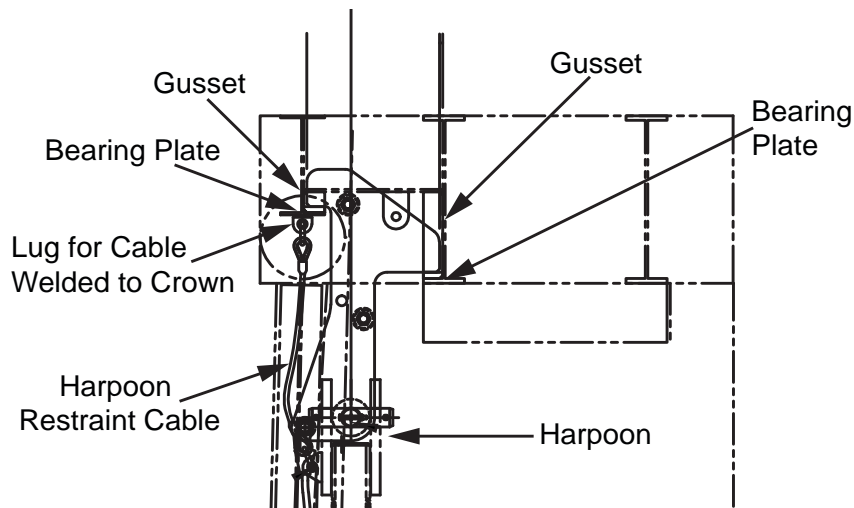

Figure 1: Inspect the gussets and harpoon restraint cable.
- Inspect the gussets to ensure that the crown hanger cannot lift or twist out of position and fall. Make sure the bearing plates fit snug on the gussets. Also inspect the harpoon restraint cable and make sure it is properly secured to the crown or mast with minimal slack. (See Figure 1).